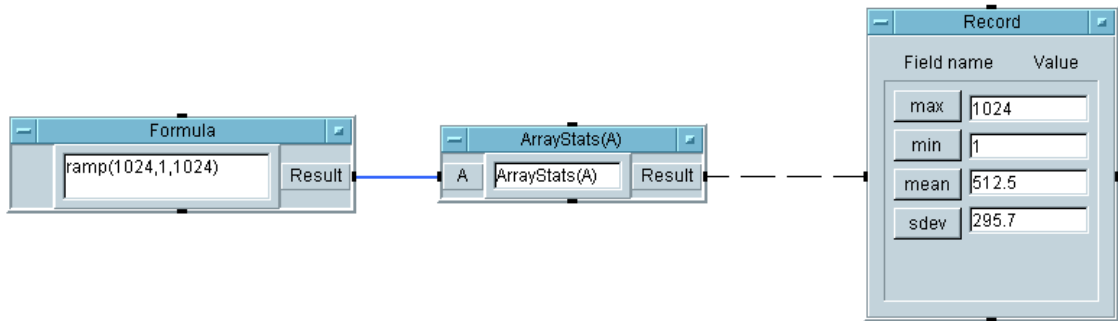

Figure 7-8. Generating a Call Object ArrayStats(A) from a UserFunction
3. Place the object in Main. Notice that VEE automatically names the new object `ArrayStats (A)` and includes the expression `ArrayStats (A)` to call the UserFunction `ArrayStats`.
4. Connect the output from the `Formula` object to `ArrayStats (A)`, and connect the output from `ArrayStats (A)` to `Record`.
5. Run the program. It should look like Figure 7-8.